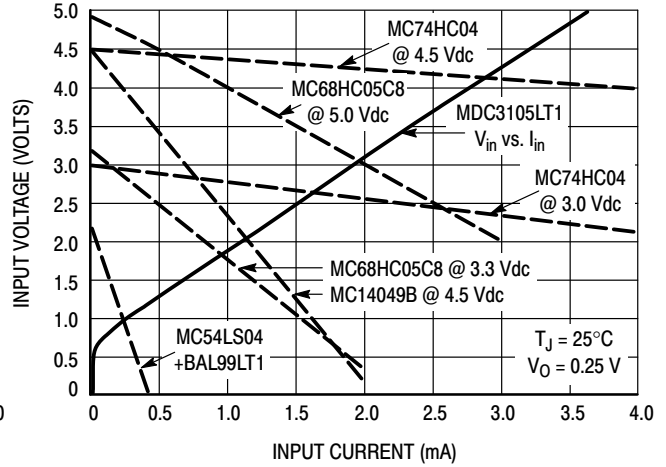

Figure 3. Input V-I Requirement Compared to Possible Source Logic Outputs
- For levels of input current above $100\ \mu\text{A}$, enter Figure 3 using that max input current and determine the input voltage required to drive the MDC3105 from the solid V_{in} versus I_{in} line. Select a suitable drive source family from those whose dotted lines cross the solid input characteristic line to the right of the I_{in} , V_{in} point.